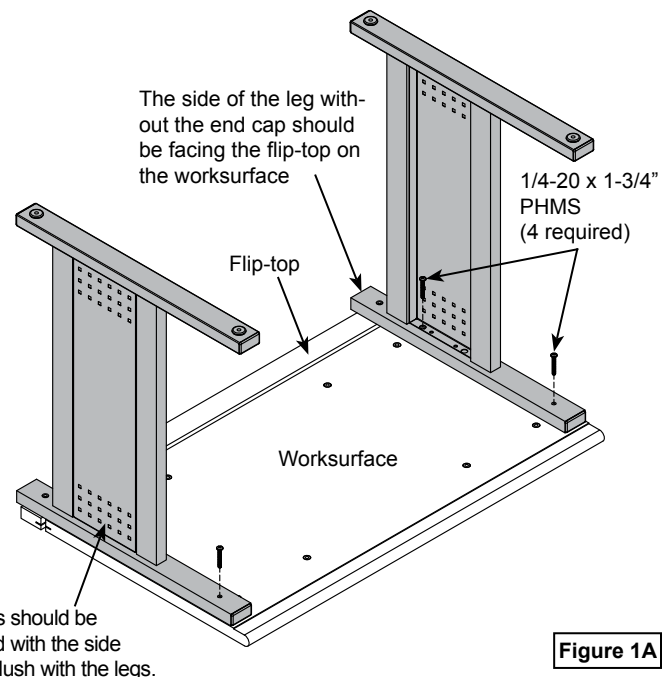

Figure 1A
2. Align the legs with the mounting holes, and install 1/4-20 x 1-3/4" PHM screws into the legs as shown. **Figure 1A.**